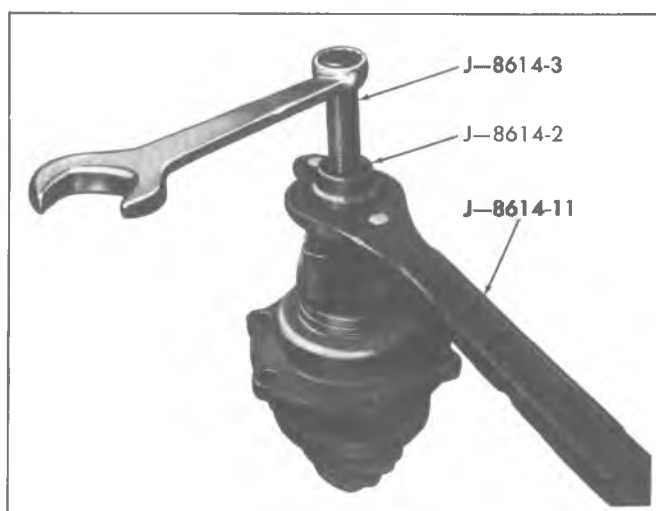

Fig. 9E--Removing Flange
4. Thread end of J-8614-3 into small O.D. end of J-8614-2. Then with J-8614-11 installed as a step 2, insert J-8614-2 into J-8614-11 and turn it 1/8 of a turn to locked position. Remove flange by turning J-8614-3 while holding J-8614-11 as shown in figure 9E.